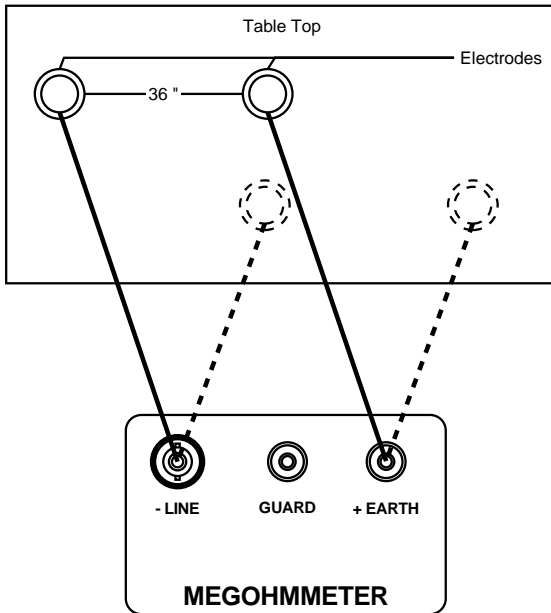

Figure 16
3. Unless otherwise specified, make five measurements on each floor section with the weights at different locations for each measurement and record the value of two significant figures (see Figure 16).
Resistance from electrode to electrode (Figure 16):